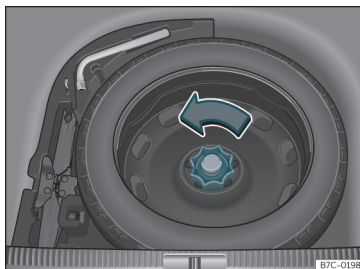

Fig. 254 Spare wheel: floor panel raised.
- Turn the thumb wheel anti-clockwise >>> **Fig. 254**.